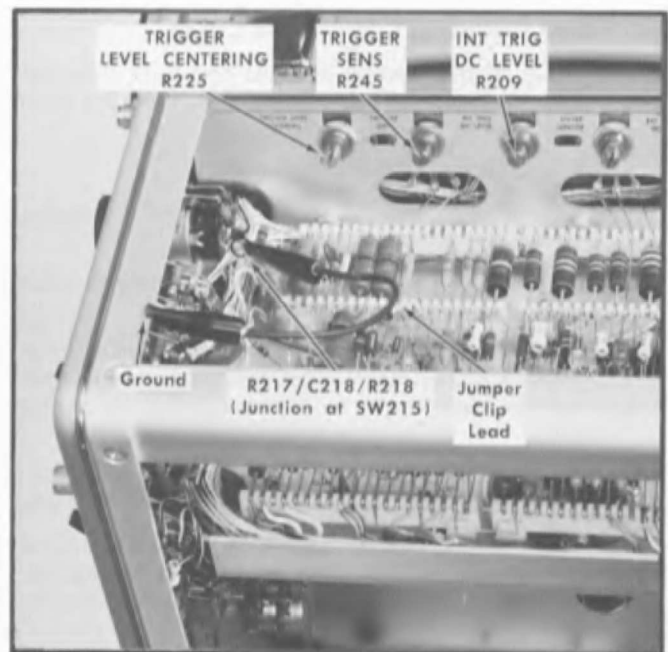

Fig. 5-5. Trigger clip-lead connections, adjustment and test point locations (upper right corner view).
- f. Locate the junction of R217, C218, and R218 (see Fig. 5-5). Connect a short jumper clip lead (item 11) between the junction and ground. This jumper disables the TRIGGERING LEVEL control.
- g. Rotate the TRIGGER LEVEL CENTERING R225 and TRIG SENS R245 controls (see Fig. 5-5) fully clockwise.
- f. Adjust the INT TRIG DC LEVEL R209 control (see Fig. 5-5) to obtain a stable display. (With the SLOPE switch set to +, the sweep trace should start on the positive-going rise of the calibrator waveform.)